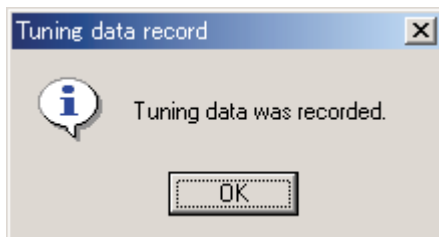

Figure 6.2.1 Record Tuning Data Dialog Box
- (2) The Record Tuning Data message box (Figure 6.2.1) appears, and the tuning mark appears in the trend display.